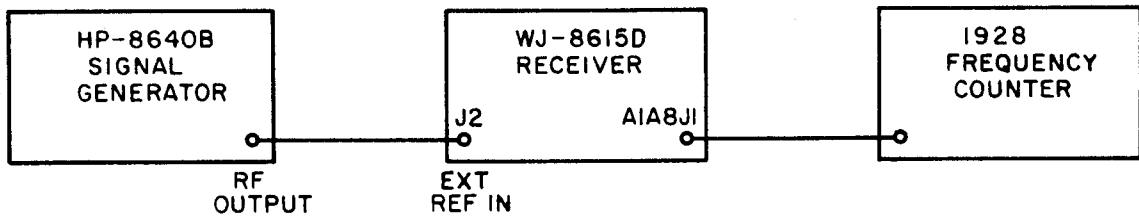

Figure 4-32. Reference Generator External Operation, Equipment Connections
- 5) Connect the test equipment as illustrated in **Figure 4-32** and set the signal generator to 10.01 MHz, CW, and at a 0 dBm level.